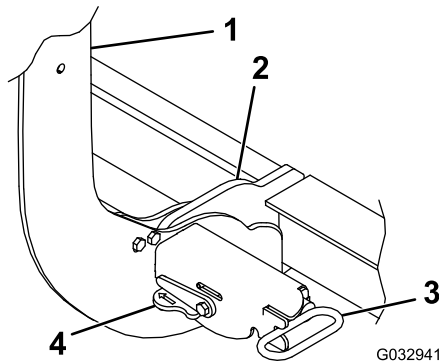

Figure 24
4. Turn the levers on the spring pins to the LOCK position (Figure 24).
- Ensure that both spring pins have fully engaged the coupler (Figure 24).